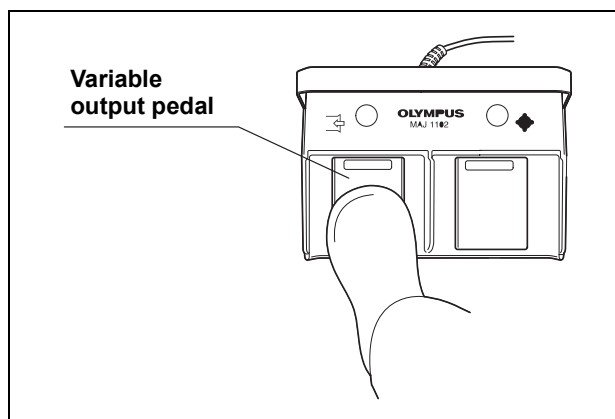

Figure 6.3
1. Advance the probe tip toward the tissue to be treated, and press the ultrasonic variable output pedal to apply ultrasonic output (see Figure 6.3).